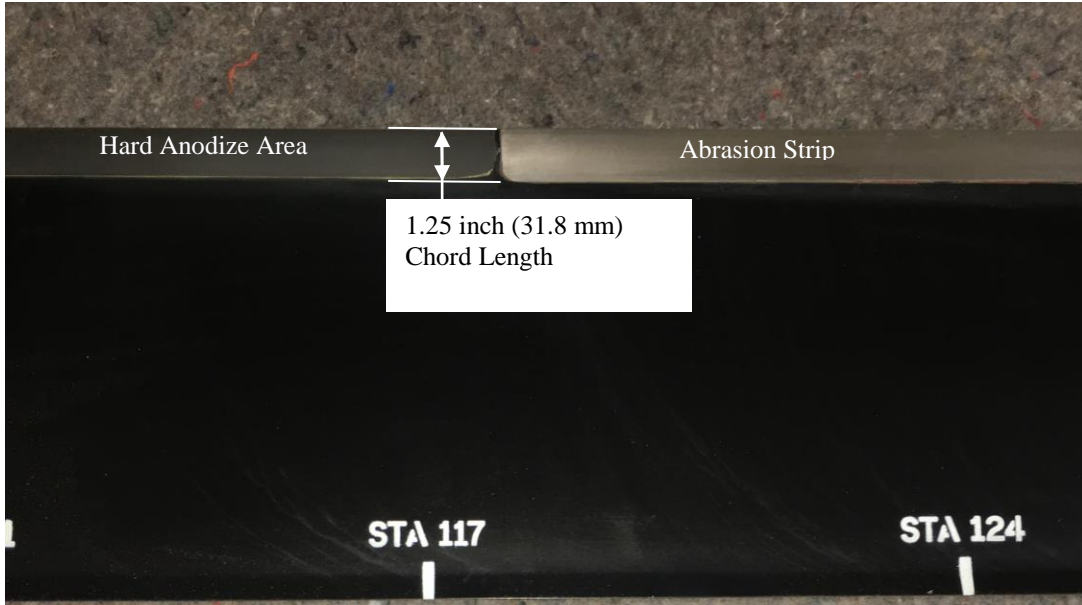
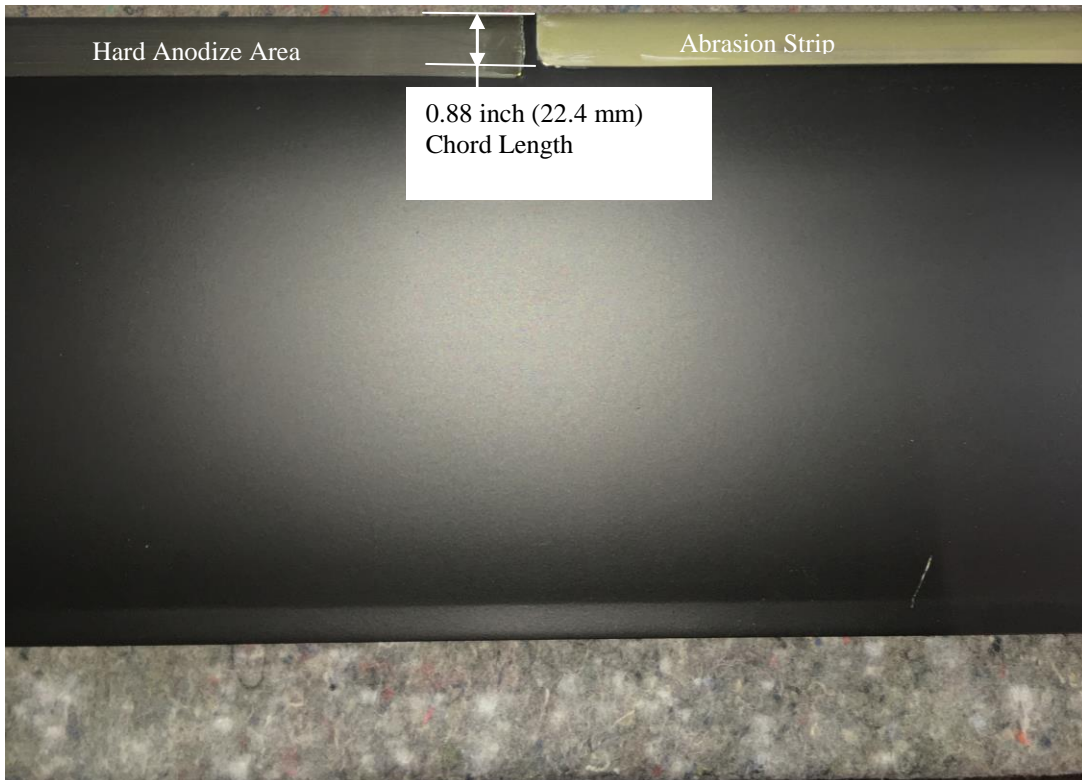

Figure 1 – 1.25 inch (31.8 mm) Chord Abrasion Strip
Figure 2 – 0.88 inch (22.4 mm) Chord Abrasion Strip
- 1) Determine which Chord Length Abrasion Strip is present on the subject blade and Total Time Since New (TTSN) or since Abrasion Strip Replacement to determine if this Mandatory Service Bulletin is applicable. Reference **Figure 1** and **Figure 2** on Page 2.